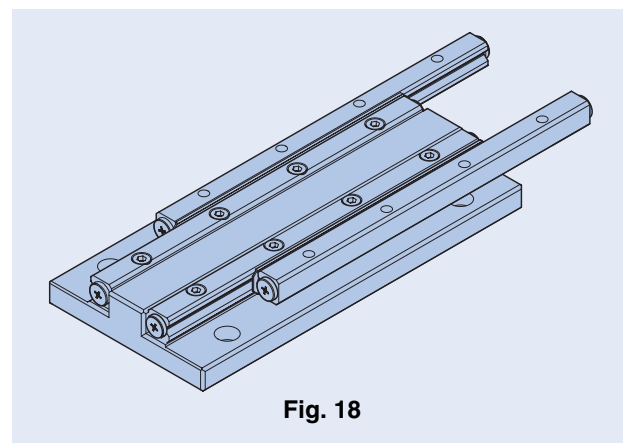

Fig. 18
- Place both ways in table-side on the location of the stroke end. (See Fig. 18)